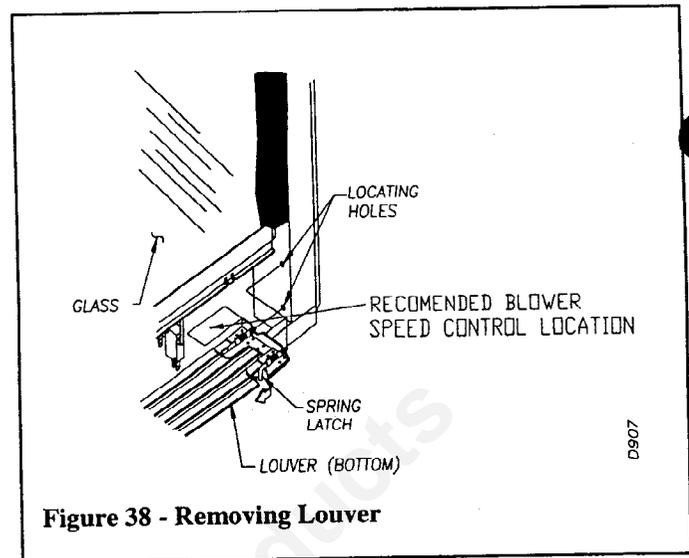
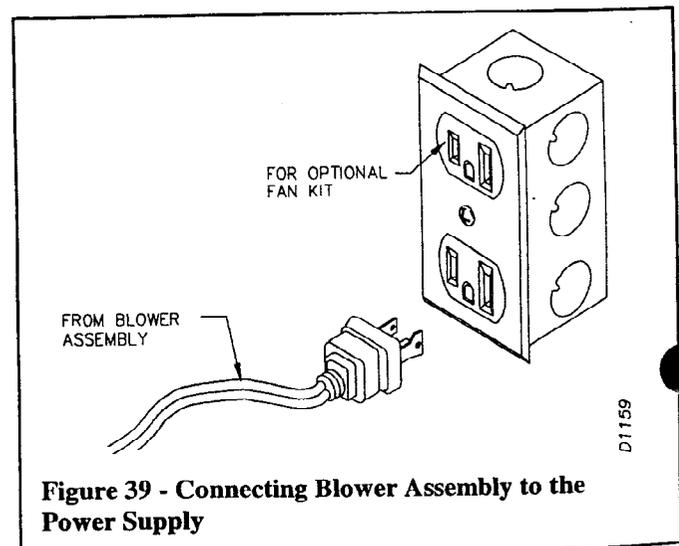

Figure 38 - Removing Louver
Figure 39 - Connecting Blower Assembly to the Power Supply
1. To remove the lower louvers simultaneously pull both top end spring latches towards the center of the appliance until they are disengaged from the locating holes. Repeat for the bottom spring latches and pull the louvers outward (see Figure 38).
An outlet box with two receptacles has been provided for your convenience and is located on the lower right side of the appliance (see Figure 39). The variable speed controller is mounted on a magnetic base and may be positioned anywhere within an accessible distance behind the louvered opening (see Figure 38).
1. Remove lower louver access panel from fireplace (see Figure 38 on page 15).
1. To remove louvers follow the instructions on page 15. Refer to Figure 38.